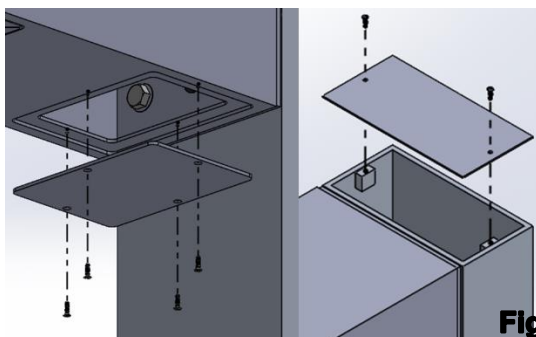

Fig. 4
- Finally place again the fixture cover and the pole cap. Tighten to 12 lbs-in. **Fig. 4**